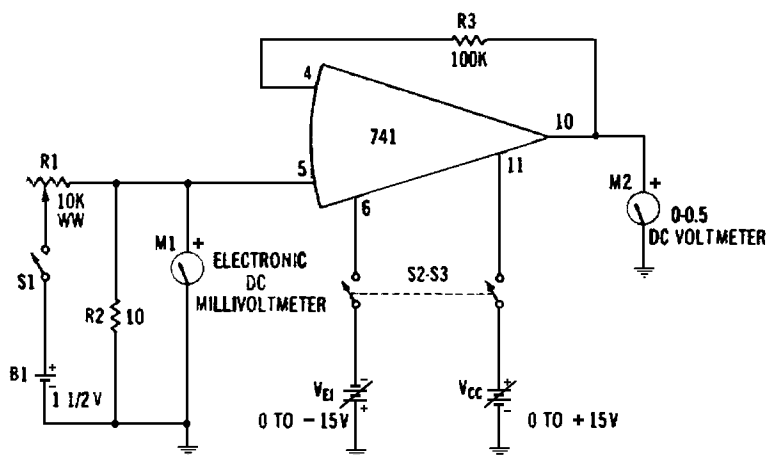

Fig. 2-30. Power-supply rejection ratio.
#### Required Equipment (Fig. 2-30)
1. With switches S1 and S2-S3 open and with potentiometer R1 set to maximum resistance, set up the test circuit as shown in Fig. 2-30.